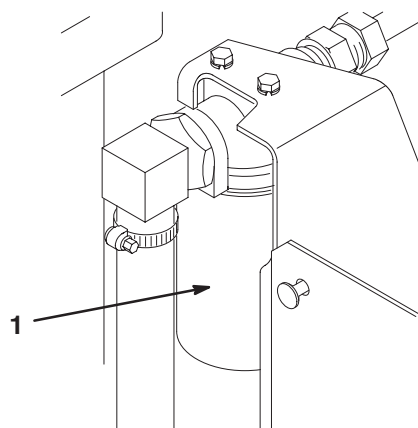

Figure 22
4. Clean the area around the hydraulic oil filter (Fig. 22). Remove the filter from the bottom of the filter housing and allow the oil to flow into a drain pan. Use a bottom-type filter wrench. Dispose of the oil filter properly.